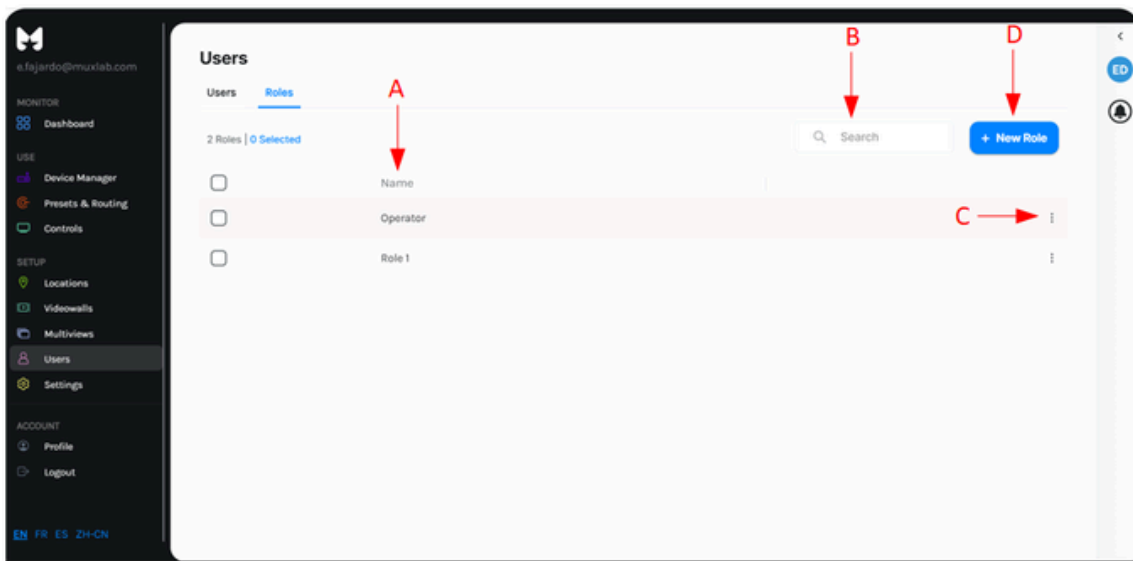

Figure 52
2. When you click on this option, the system will show you information about the Roles already created, allowing you to edit or delete them, and will also give you the option to create new roles. Here you will find four different options. Figure 52